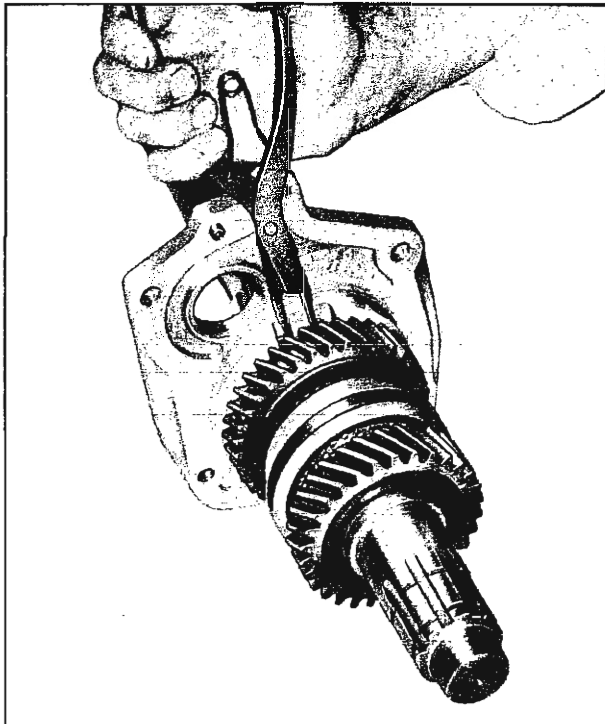

Fig. 7A-28 Installing Rear Bearing Retainer
9. Install the rear bearing retainer (Fig. 7A-28). Spread the snap ring in the plate to allow the snap ring to drop around the rear bearing and press on the end of the mainshaft until the snap ring engages the groove in the rear bearing.
11. Press speedometer drive gear onto the mainshaft using a suitable press plate. Position the speedometer gear to get a measurement of 4-5/16" from the forward side of the gear to the flat surface of the rear bearing retainer (Fig. 7A-29) or until centered on the mainshaft speedometer drive gear boss.